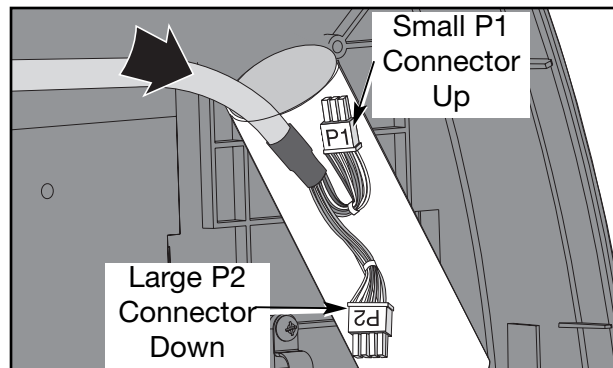

Figure 28
- B. Push the P2 connector down into the top handrail hole with the P1 connector pointing up. See Figure 28.